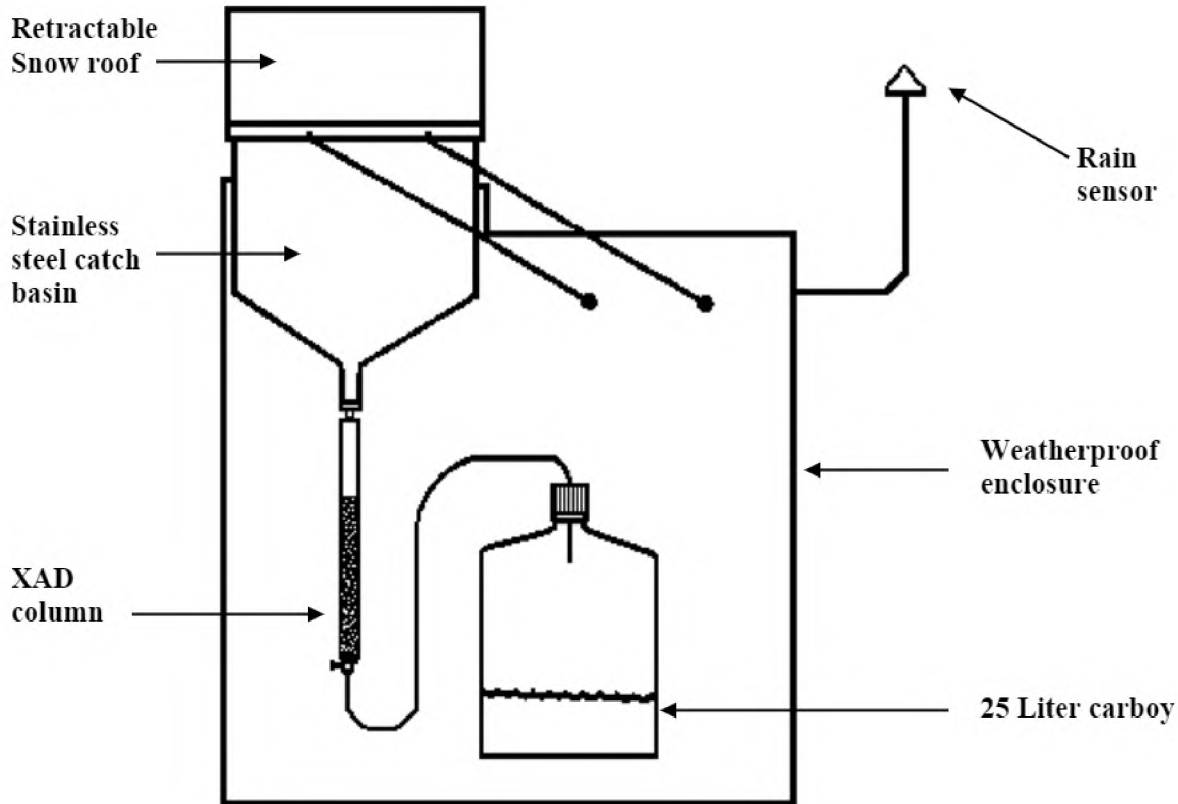

Figure 2. Schematic of the MIC Precipitation Collector
A diagram of the MIC sampler and XAD column assembly is shown in Figure 2. General maintenance and trouble shooting are covered in section 1.5.
- 3) Rinse the collection surface with about 200 mL of DI water (one wash bottle full) while wiping with the piece of precleaned glass fiber filter sent with the monthly supplies. This step removes adhering particles from the collection surface. Allow rinsings to pass through the column until the water level is halfway between the top of the resin bed and the top of the column (see Figure 2). If the temperature is so cold that water freezes on contact with the funnel, simply wipe of the collection surface with a dry piece of filter and go to Step 4.